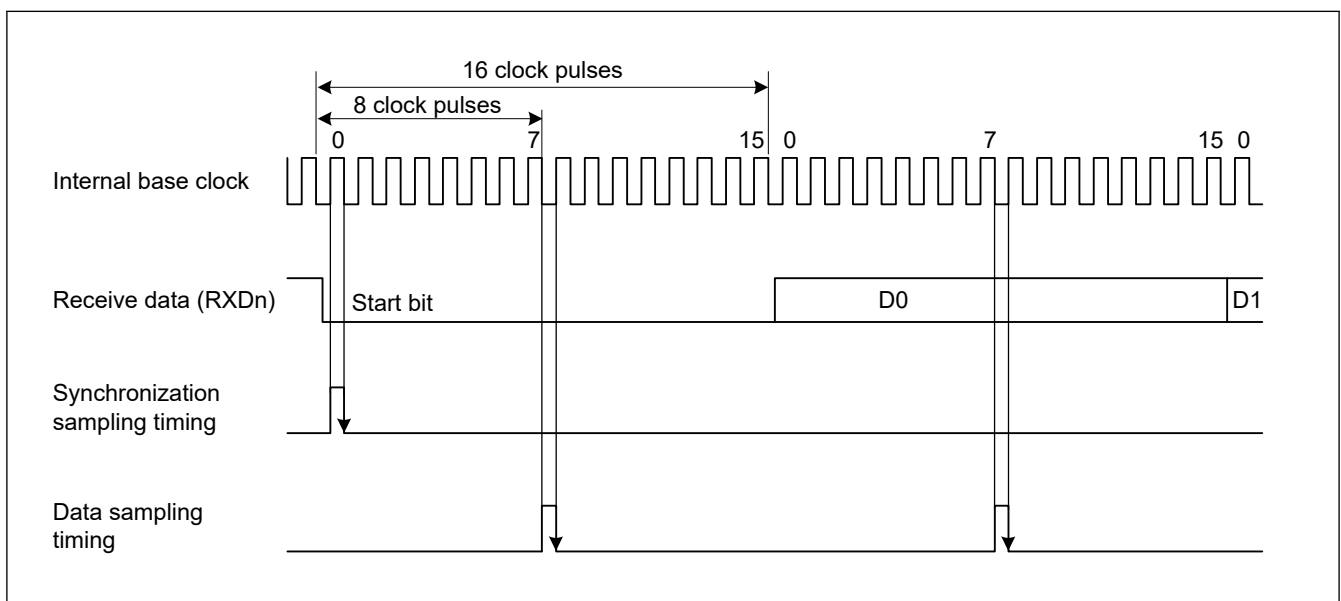

Figure 27.4 Receive data sampling timing in asynchronous mode
Because receive data is sampled on the rising edge of the 8th pulse^{*1} of the base clock, data is latched at the middle of each bit (when sampling timing does not adjust (SPTR.ASEN = 0)), as shown in Figure 27.4 The reception margin in asynchronous mode is determined by the following formula (1):
The determination condition of a start bit is that Low beyond half bit length continues. It is same as the sampling timing. In Figure 27.4, Low period should be kept over 8-cycles to detect a start bit. If Low period does not keep over 8-cycles, the IP judges this as a noise. So, the IP does not start reception and wait start bit.